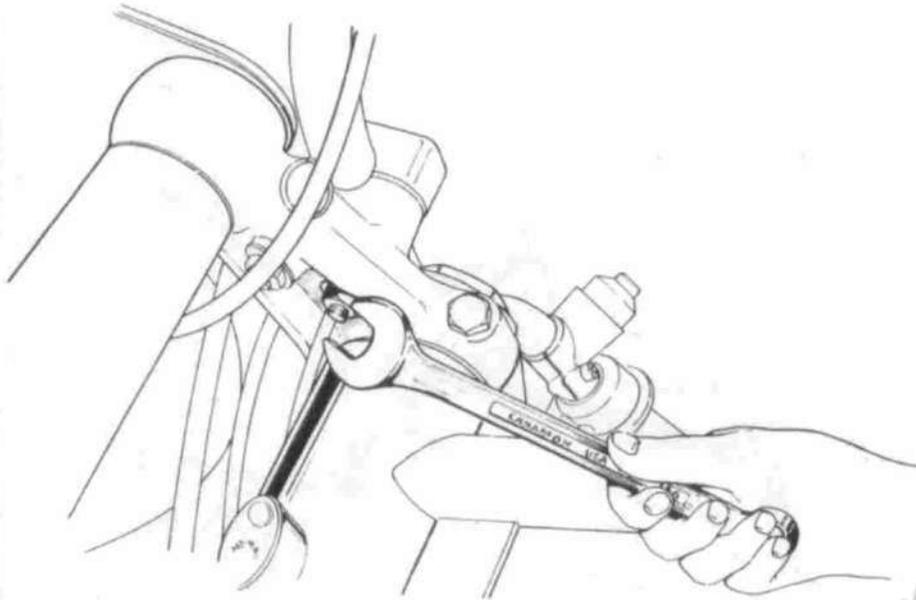

Fig. 51
- 1) Remove the handlebar, unscrewing the bolts (Fig. 51).